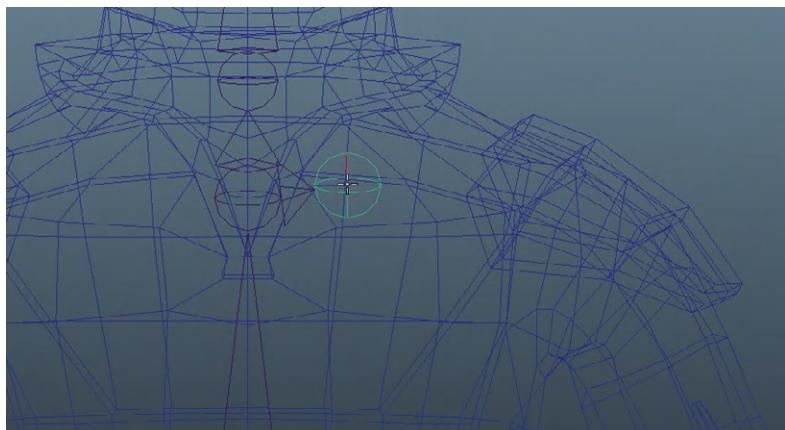

FIG. 8.13 L_Clav placement in the front View Panel (we still need to adjust its position in other View Panels).
Step 19: Create and position the L_Clav joint. Start this in the front View Panel by activating the Joint Tool and first clicking on the Clav_Base joint. Then click where the L_Clav joint should be (Fig. 8.13). Do NOT hit Enter or otherwise select another tool.